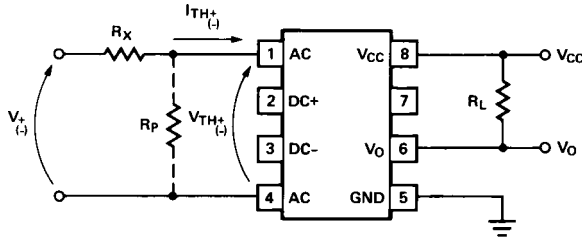

Figure 13. External Threshold Voltage Level Selection.
The HCPL-3700/3760 optocouplers have internal temperature compensated, predictable voltage and current threshold points which allow selection of an external resistor, R_X , to determine larger external threshold voltage levels. For a desired external threshold voltage, V_{\pm} , a corresponding typical value of R_X can be obtained from Figure 12. Specific calculation of R_X can be obtained from Equation (1). Specification of both V_+ and V_- voltage threshold levels simultaneously can be obtained by the use of R_X and R_P as shown in Figure 13 and determined by Equations (2) and (3).